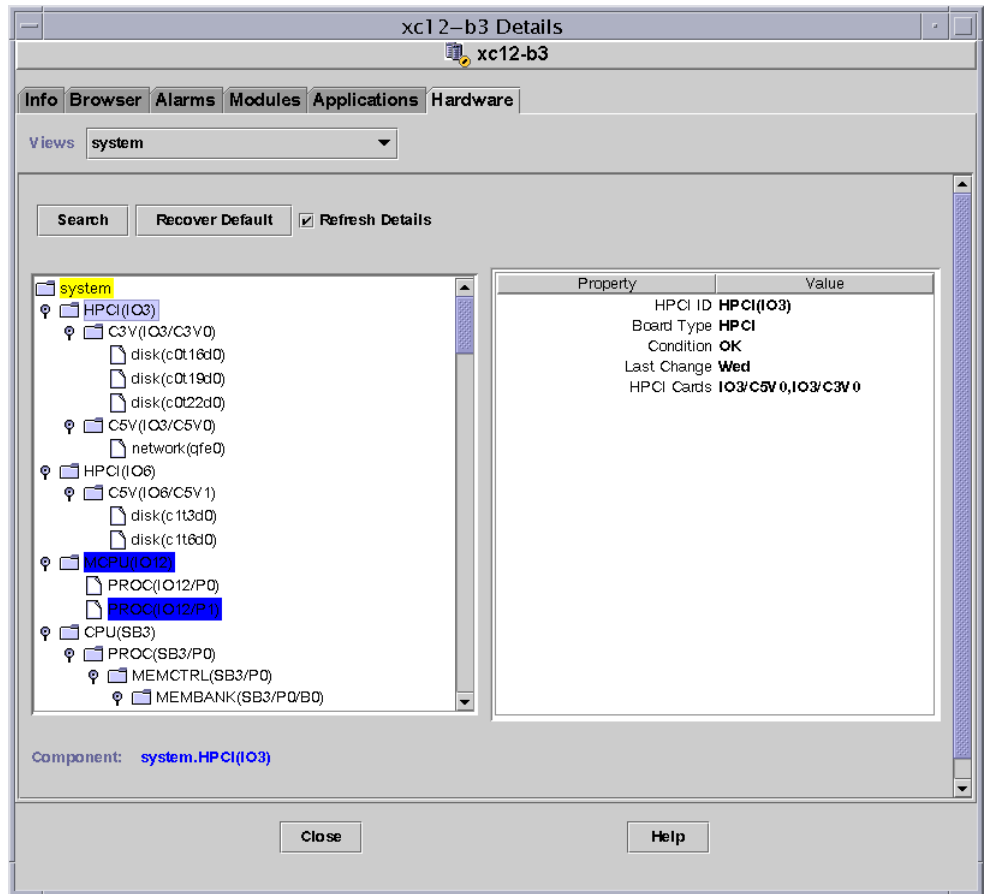

FIGURE 5-8 Sun Fire High-End Systems Domain Logical View
4. Click on the Expand All button and then choose on an object in the left pane to see a logical view similar to FIGURE 5-8.